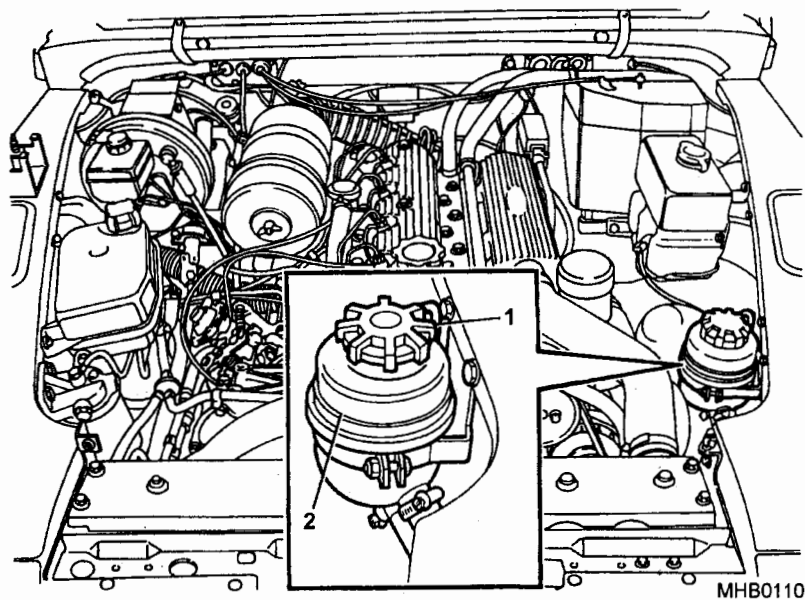

Fig 23 Power steering reservoir
29 Check that the fluid is up to the high mark (Fig 23 (2)) on the reservoir, if low remove the reservoir cap (1) and top up to the correct level with the specified oil.